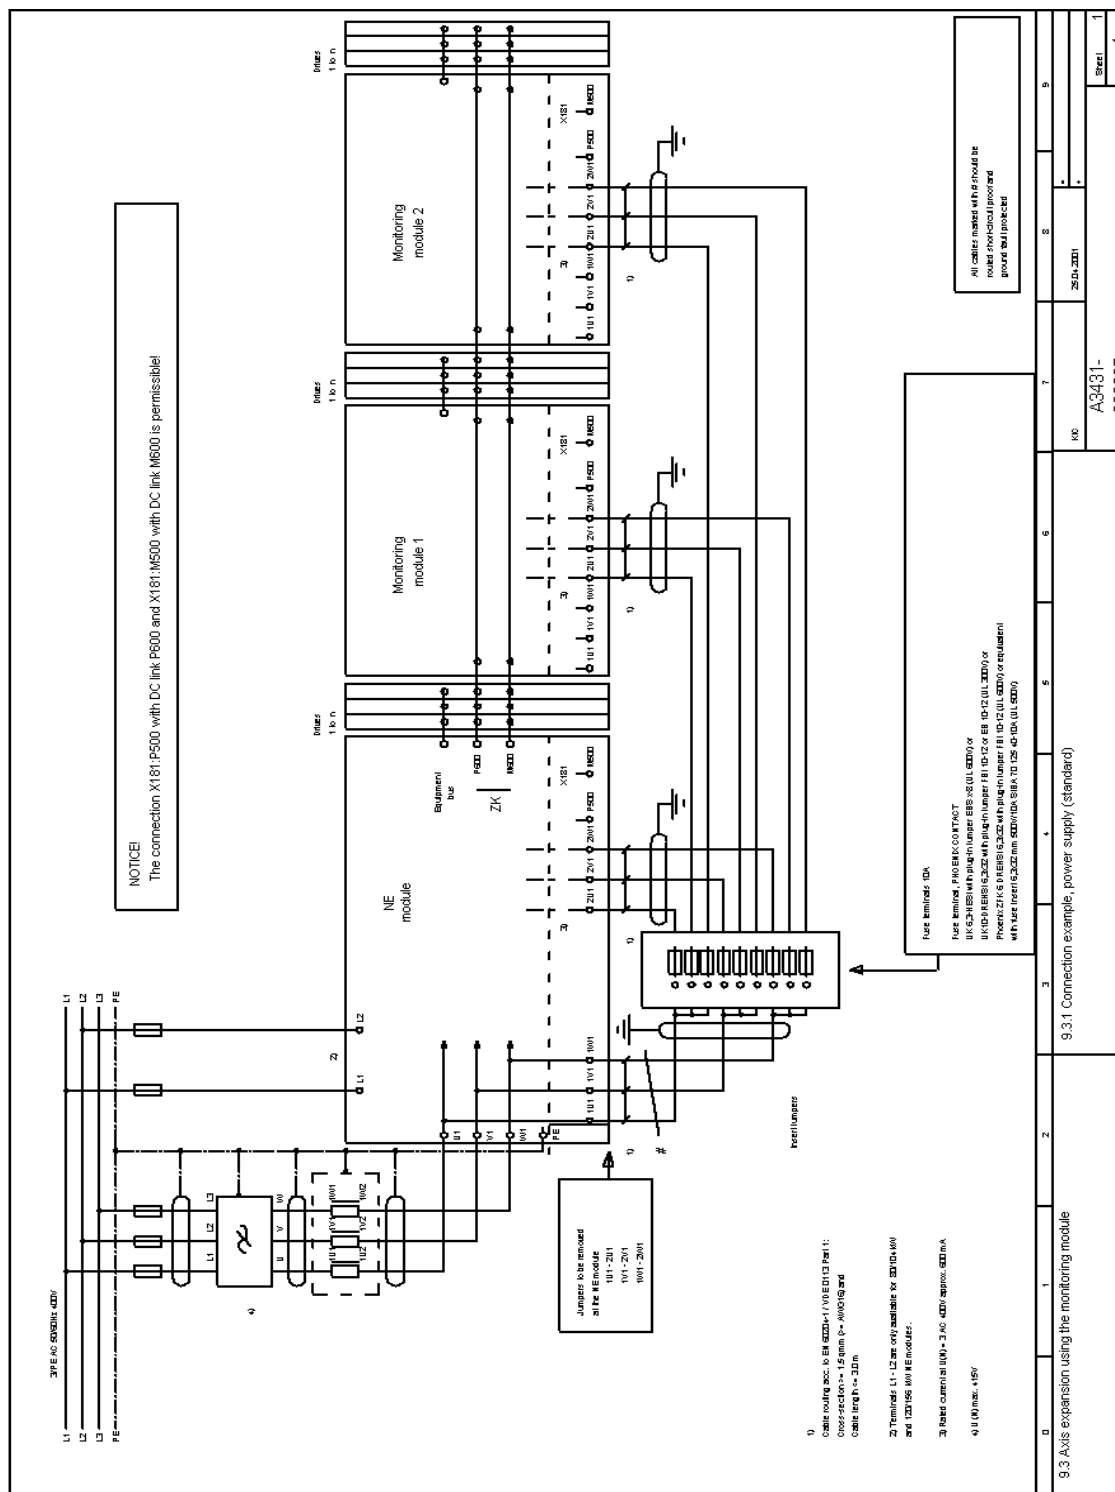

Fig. 9-5 Connection example, power supply (standard)
- Connection example, power supply (standard) —> refer to Fig. 9-5.